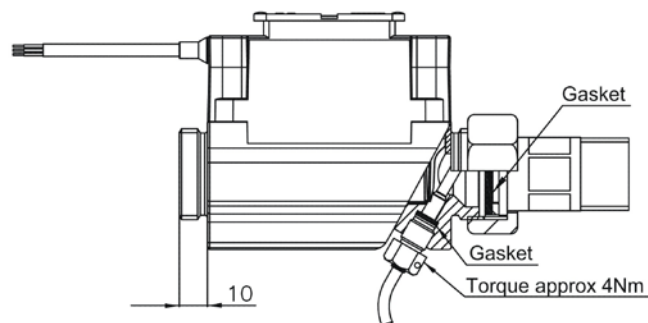

Figure 16. ULTRAFLOW® with gland and short direct sensor.
Glands and gaskets are mounted as shown in *Figure 16*, page 26.
**In connection with G3/4Bx110 mm and G1Bx110 mm, it must be checked that 10 mm thread run-out is sufficient. See Figure 16 below.**